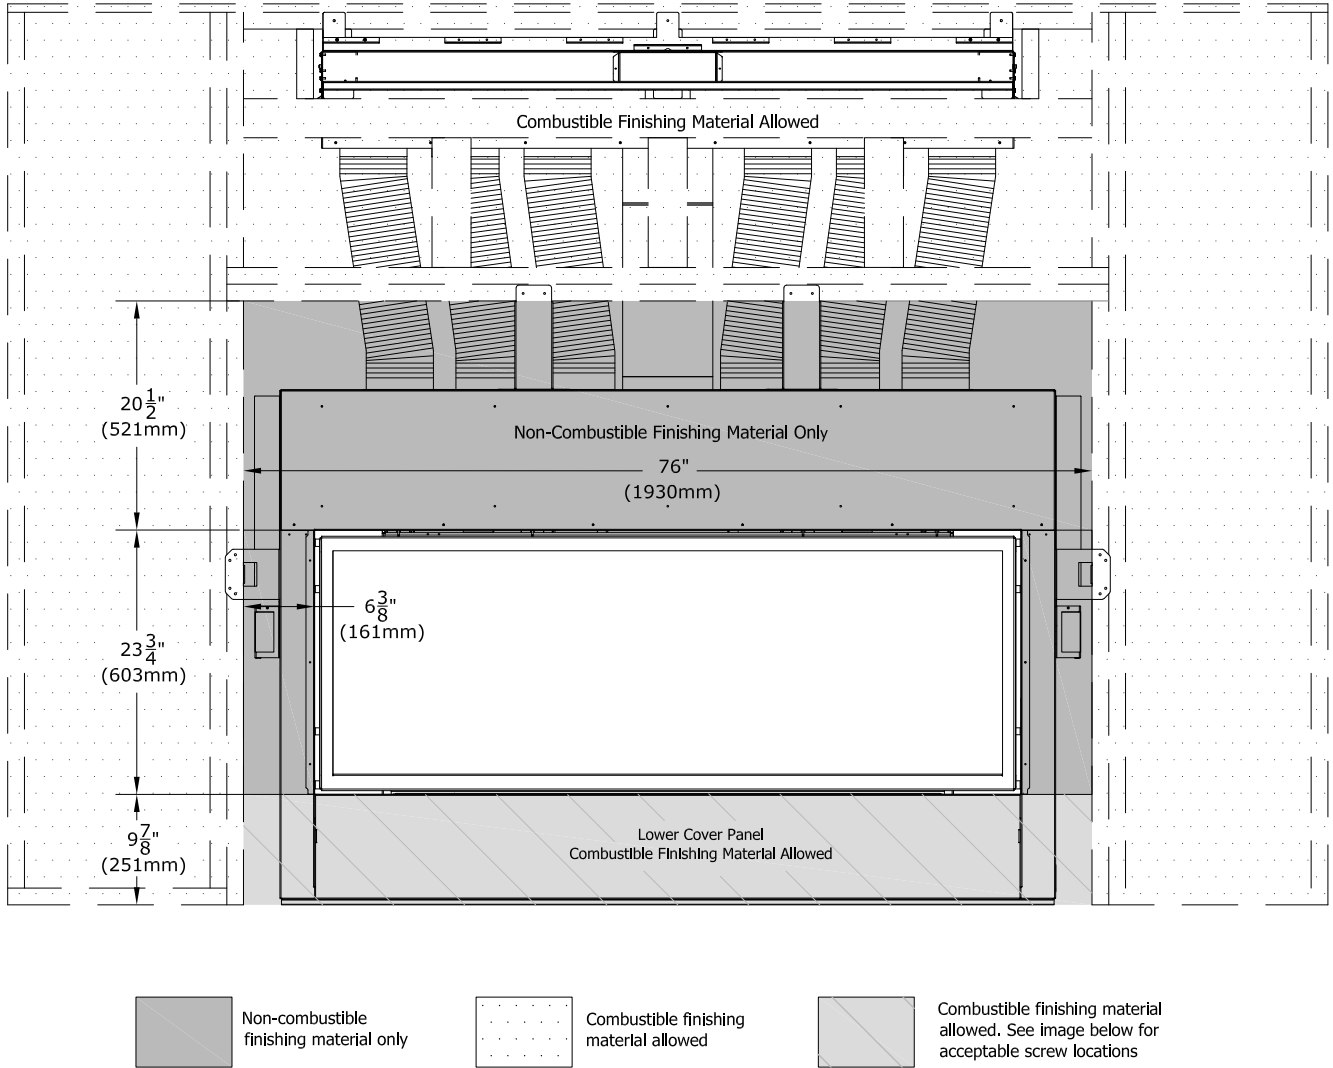

Figure 3.1 - Nordik 60TL Minimum Non-Combustible Finishing Dimensions
- Figure 3.4 shows installation of combustible wall finish up to 1" thick for the Nordik 60TL. This combustible material goes on top of any required non-combustible materials as required in Figure 3.1.